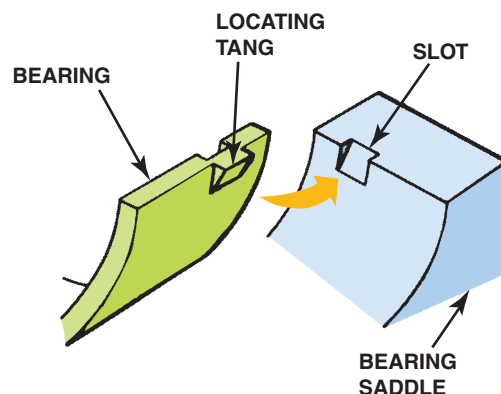

FIGURE 31-39 The tang and slot help index the bearing in the bore.
- **Bearing tang.** A *tang* or lip helps locate the bearing shell in the housing. When the bearing clearance and “crush” have been worn or destroyed, the bearing can “spin,” thus creating catastrophic failure. The tang often helps prevent this from occurring. ● **SEE FIGURE 31-39.**